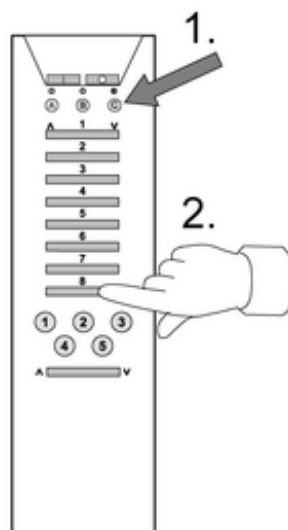

Figure 3
- Using the radio hand transmitter: Select channel group **C** and then press channel button **8** (Λ or V) for longer than 1 second (Figure 3).